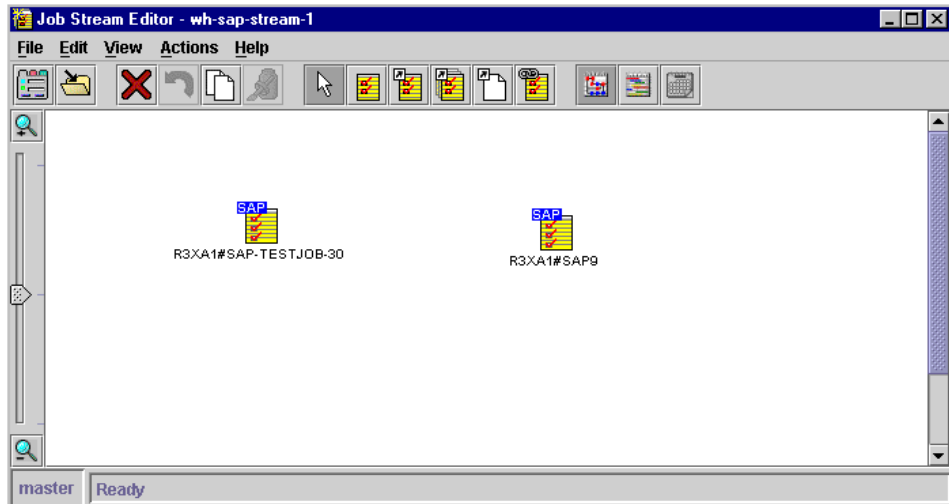

Figure 118. Jobs (represented by icons) within a job stream
- 8. The defined jobs show up as icons in the Job Stream Editor as shown in Figure 118 on page 193.